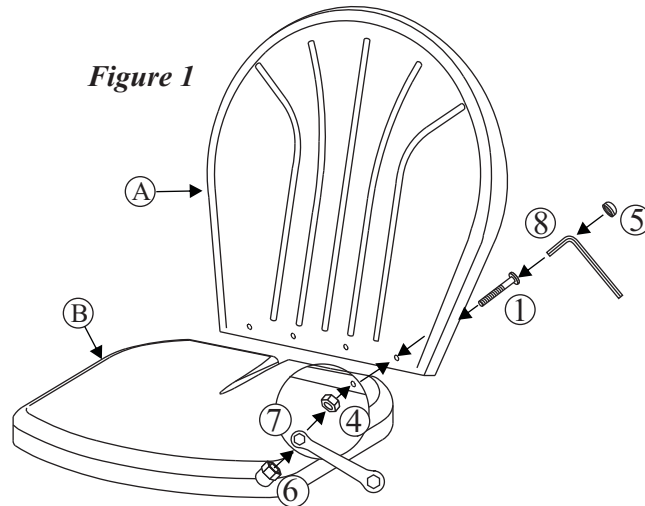

Figure 1
Step 1: Place the chair seat (B) on a solid flat surface. Position the chair back (A) as shown in (Figure 1) so that the holes in the chair back align with the holes in the chair seat. Insert Short Allen Bolt (1) through the holes of the chair back (A) and then through the holes in the chair seat. Add a 1/4" nut (4) to the end of each bolt. Tighten using hex wrench (7) and Allen Key driver (8). Do not over tighten. Cover nuts and bolts with covers (5 & 6). Repeat for remaining three holes on each back(A).
Step 1: Place the chair seat (B) on a solid flat surface. Position the chair back (A) as shown in *(Figure 1)* so that the holes in the chair back align with the holes in the chair seat. Insert 1/4"x15mm bolts (1) through the holes of the chair back (A) and then through the holes in the chair seat. Add a 1/4" nut (7) to the end of each bolt. Tighten using hex wrench (12) and Allen Key (13). Do not over tighten. Cover nuts and bolts with covers (8 & 9). Repeat for remaining three holes on each back(A).
Step1: Place tabletop upside down on a flat, non-abrasive surface. Attach table leg to tabletop using 1/4"x 15mm bolt (1) and 1/4" (2) washer as shown in (Figure 1). Add 1/4" nut (4) to the end of bolt. Tighten a few revolutions only. Do not tighten completely at this time as some adjustments may be necessary to the alignment of the table legs. Repeat for remaining two legs.